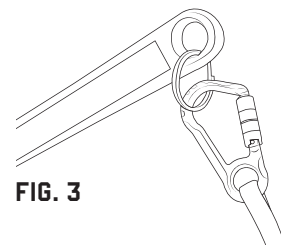

FIG. 3
3. Connect a tool lanyard to complete your tethering system. (Fig. 3)